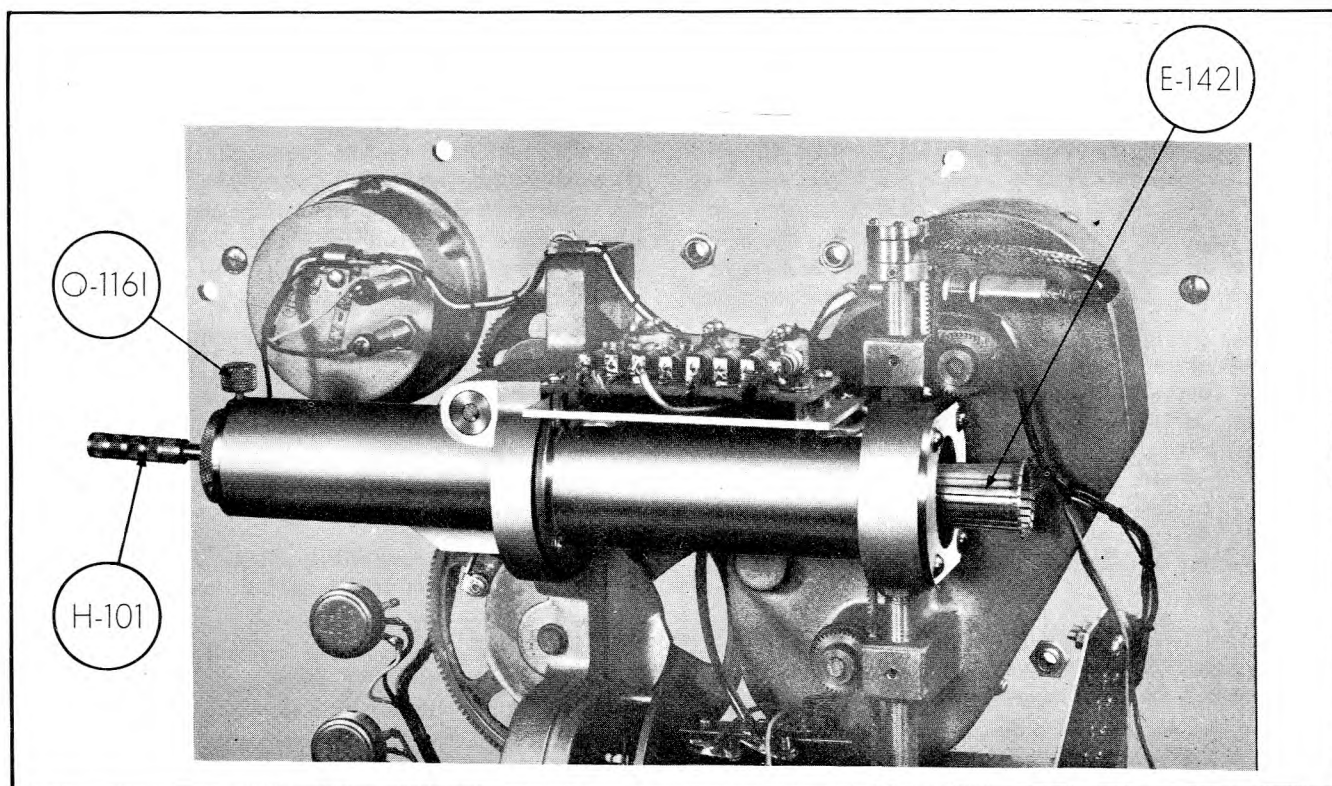

Figure 4-5. Tube Released from Contact Fingers
(6) Still holding the tube so that it will not fall, push the tube contact assembly E-142I slowly until tube is released from contact fingers. See figure 4-5.
(7) Remove the split ring contacts from lower resonator grid of old tube and place on new. Make certain that the solid side of the split ring points towards the tube base.
(8) Insert new tube well into grid contact fingers and pull tool so that E-142I is drawn out of E-142H and so that the tube is locked into the fingers. Be very careful that the tube is securely locked into the contact fingers.
(9) Loosen thumbscrew O-116I and pull inner conductor E-142H gently until tube seats in cavity. Make certain that tube has seated properly.
(10) Replace and tighten housing support E-142E.
(11) Tighten thumbscrew O-116I.
(12) Replace housing E-142B and then the #6-32 screw.
(13) Owing to variations in tube characteristics, it now may be necessary to adjust the repeller voltage on the JAN-2K28 tube. To determine whether or not such adjustment is necessary, connect the RF OUTPUT terminal of Signal Generator TS-403/U to an external synchroscope. It will be necessary also to use a crystal detector in order to demodulate the rf. Set the modulation selector switch (S-103) to the INT position and the SYNC SELECTOR switch (S-101) to either the x1 or x10 positions. The PULSE RATE, PULSE WIDTH, and PULSE DELAY controls can be set as desired.